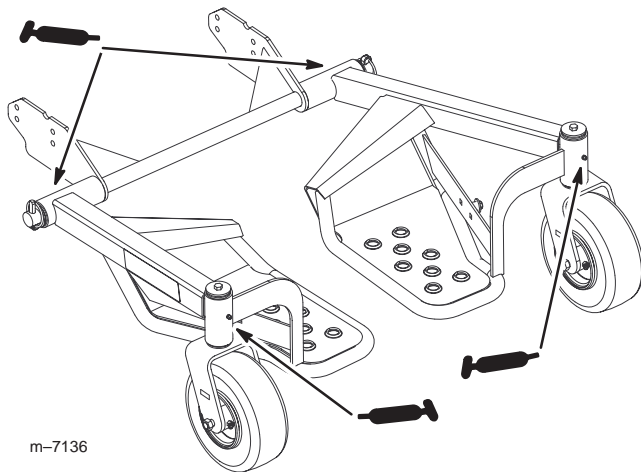

Figure 12
2. Connect a grease gun to each fitting (Fig 12).